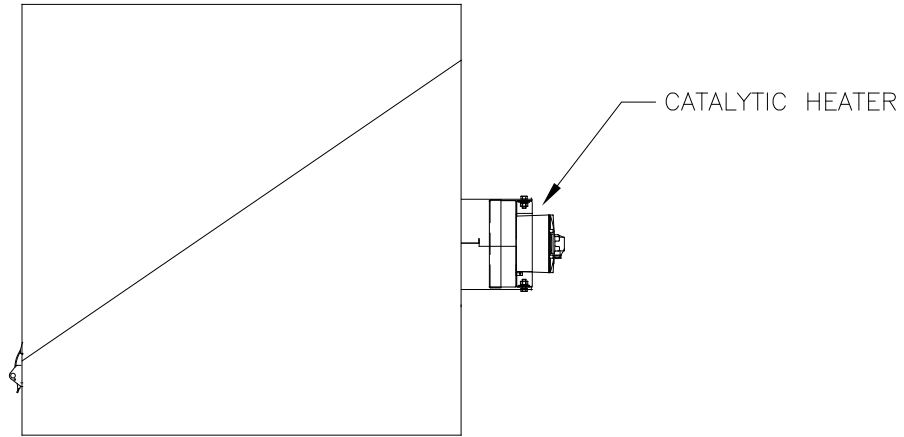

Figure 3-47 Catalytic Heater Option in Environmental Enclosure
- 1) Locate the installed catalytic heater on the rear of the environmental enclosure (see Figure 3-47).